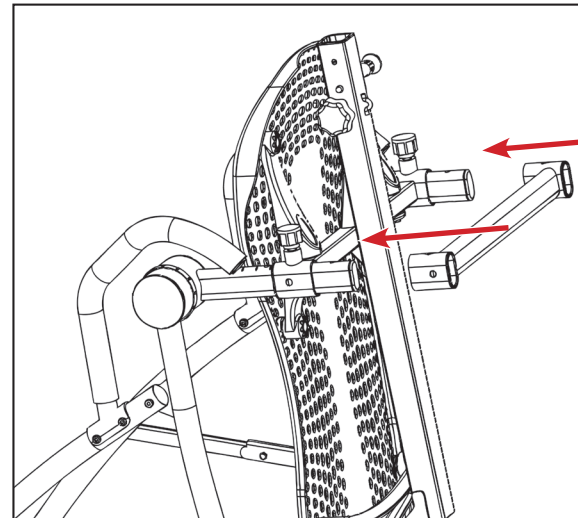

Figure 12
- Align the holes in the Crossbrace with the last hole on the Rotation Adjustment Arms (Figure 12).